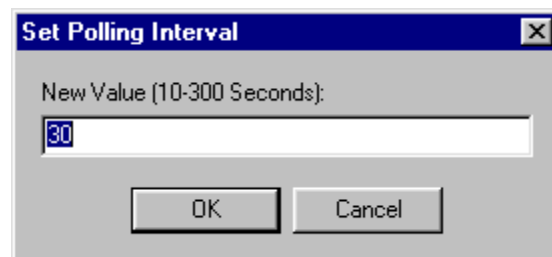

Figure 10-4
- Choose **File > Set Poll Interval**, Figure 10-4. The CP Gateway polls for new instrument data to transmit to VistA. You can adjust the number of seconds between polling operations. Enter a value from 10 to 300 seconds. The new value becomes effective after the next polling operation so it may take up to 5 minutes for the new value to be used.